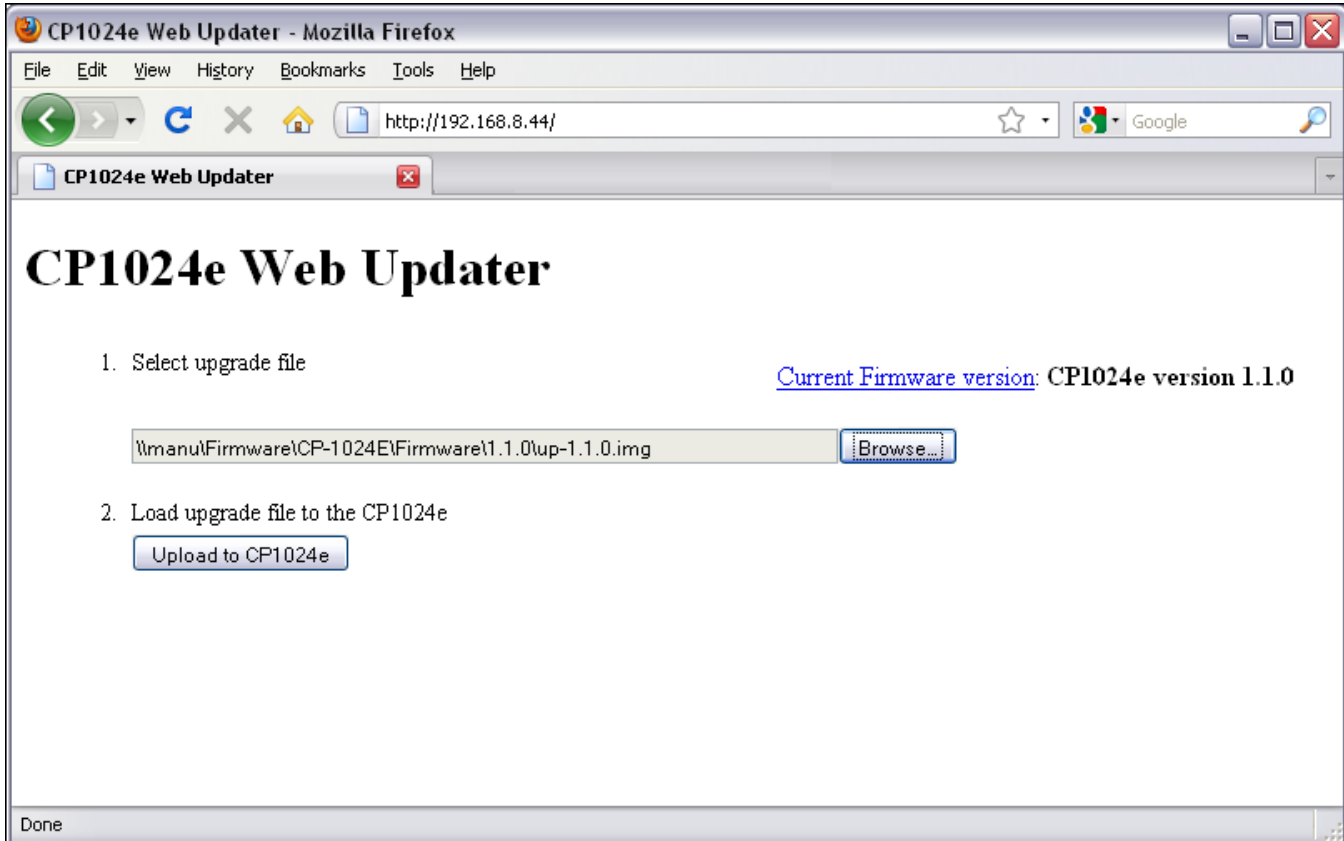

Figure 5-1: CP2200e Main Screen
1. To upgrade firmware using the web interface, open a firefox web browser and enter the IP address of the CP-1024E into the address field, and then press the <enter> key. The *CP-1024E Web Updater* screen will appear, as shown in Figure 5-1.